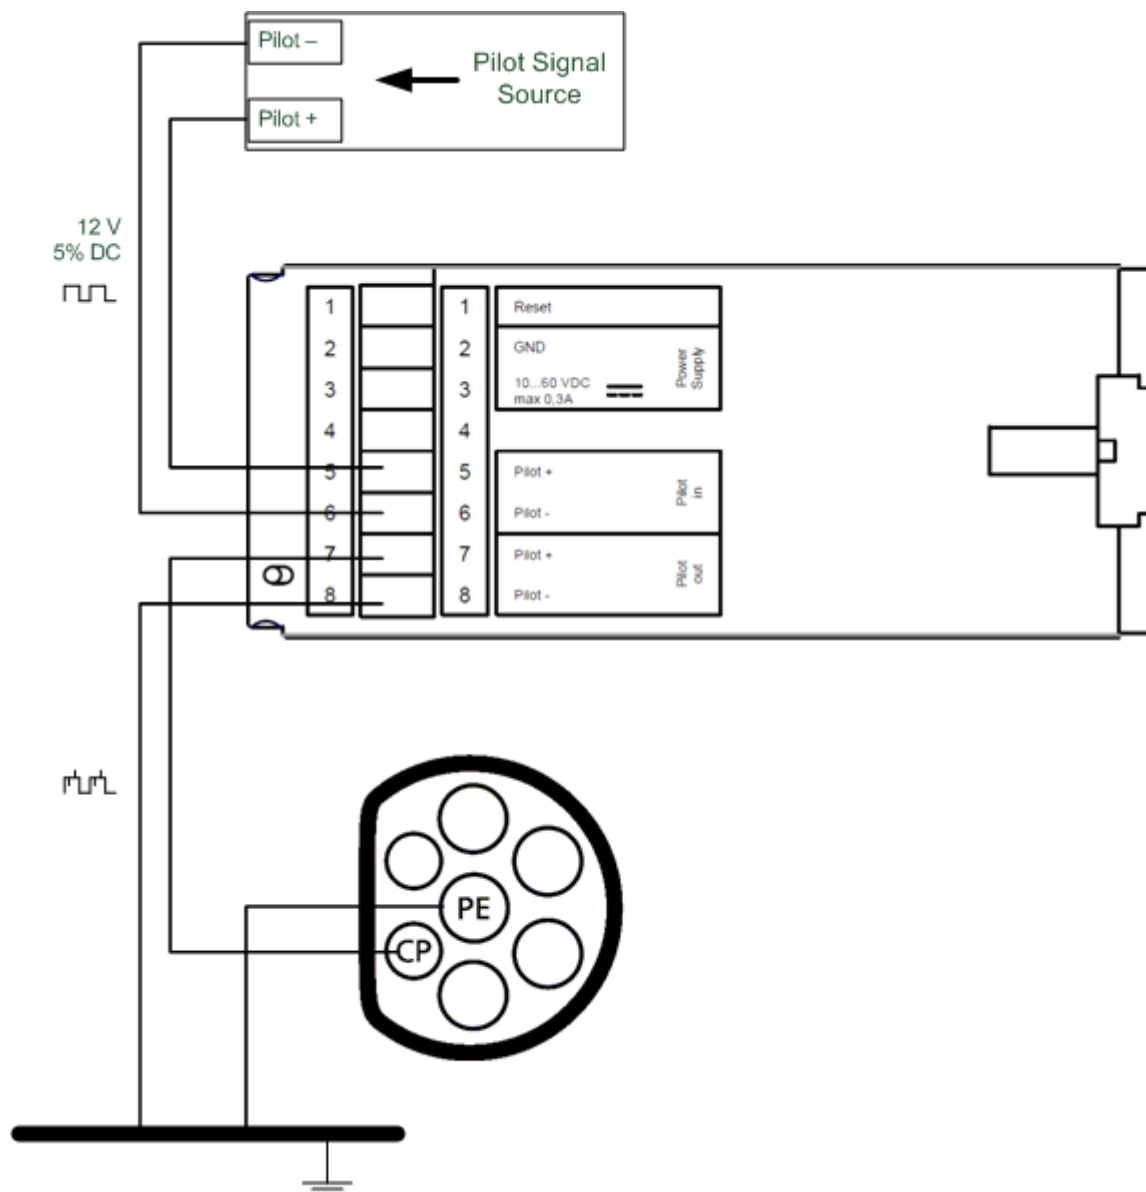

Figure 4: Pilot signal connection – usage in a charging station
- ❗ In order to minimise delays of the powerline signal, the connection between PE and the negative pilot line signal should be made at the charging socket, i.e. at the "Pilot Out" side. The two signals "Pilot In +" and "Pilot In –" should be connected directly to the pilot signal source without PE reference. See Figure 4.